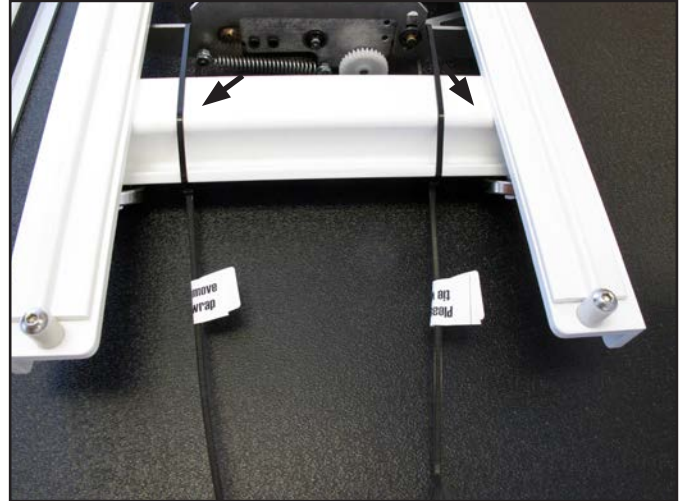

Figure 3.2
1. Remove the blue flexirack (*Page 3.3, A*) and the Pro-Stitcher carriage (*E*) from the box. Cut the cable ties from the front of the carriage (*Figure 3.2*).